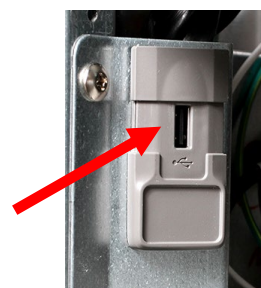

Figure 1
1. Locate the USB with the **FRYER SOFTWARE FILES** and follow the enclosed instructions to update the fryer software using the USB port on the **FAR-LEFT** side of the fryer, just inside the left fryer door (see Figure 1).